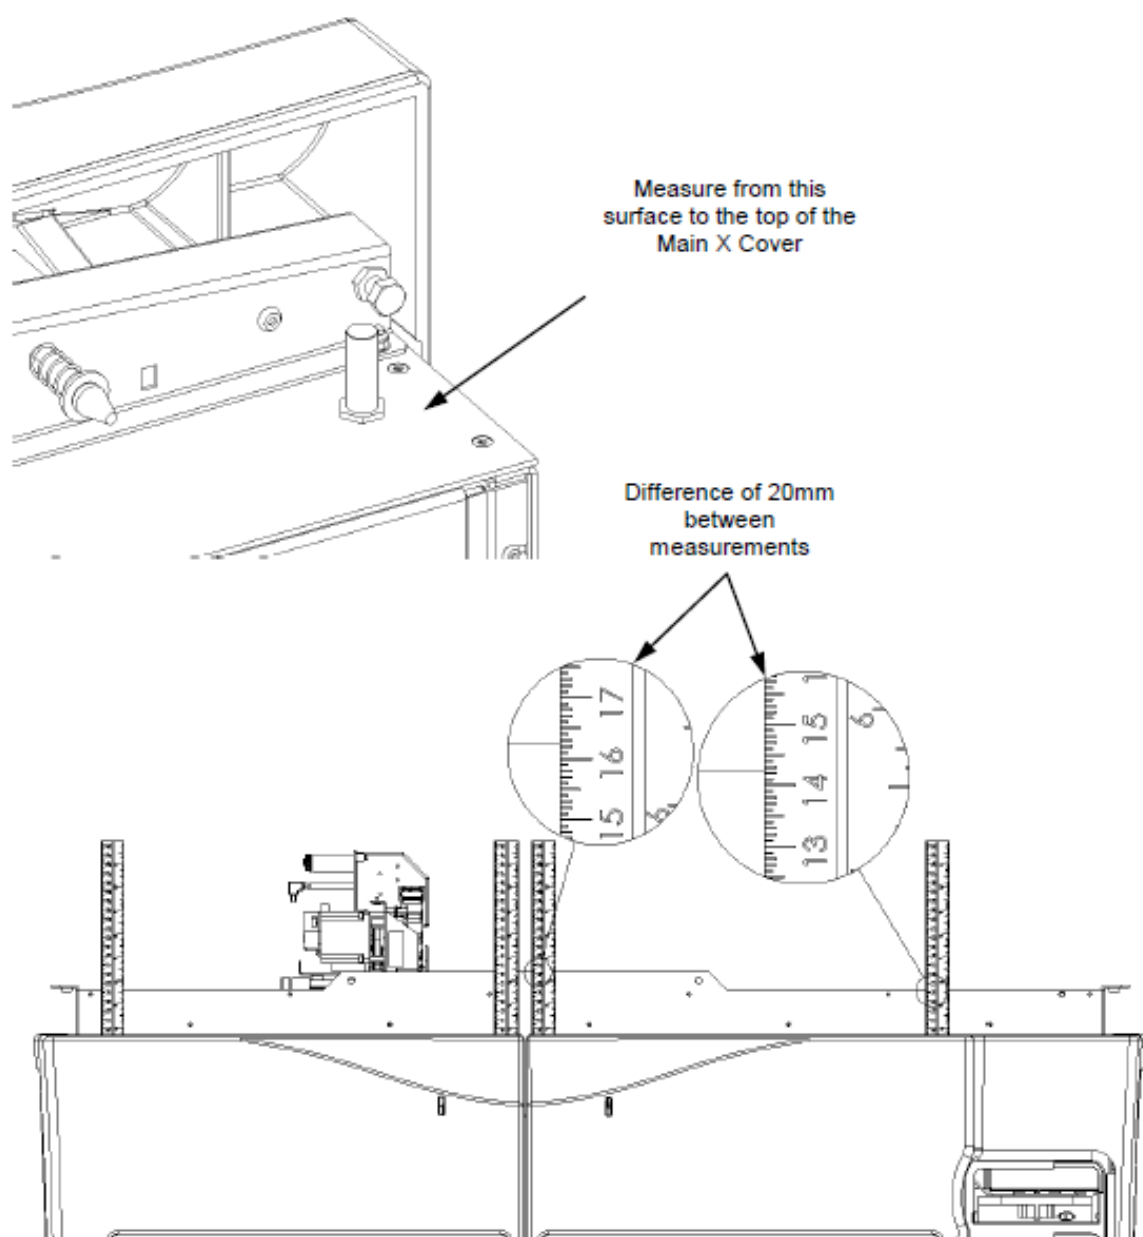

Figure D-6: Measuring the Door Height
The raised section of the Main X Cover is 20mm above the lower section, and so, the difference in measurement between the ends of each door should be 142.5mm and 162.5mm as shown in Figure D-6.
3. Insert a 4mm Allen Key into the hole at the base of the upper hinge pivot shaft housing. Turn as shown in figure D-6 to either raise or lower the hinge.